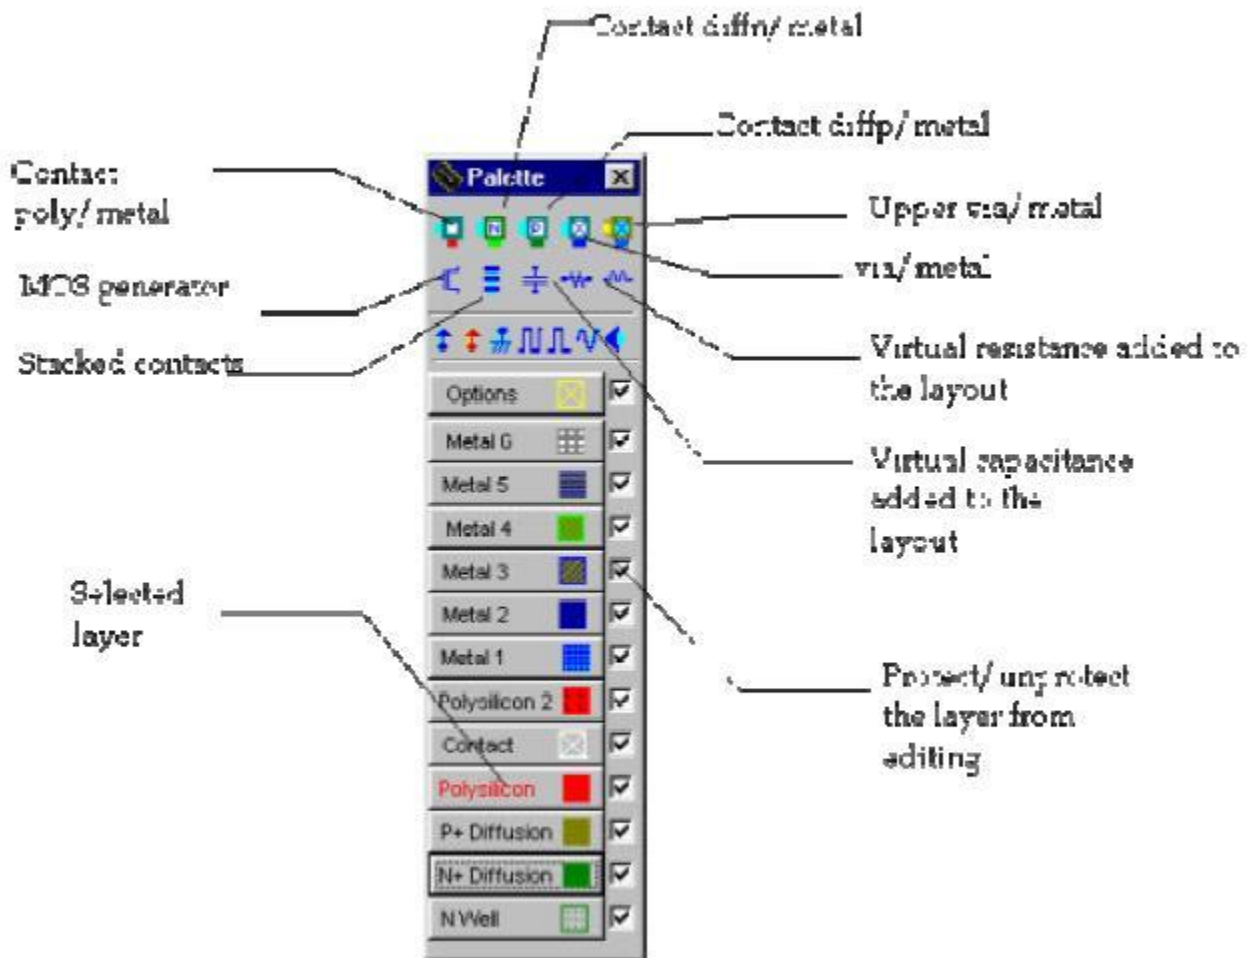

Figure 2: Palette Menu Window
The palette is located on the right side of the screen. A little tick indicates the current layer. The selected layer by default is a polysilicon (PO). The list of layers is given in figure 2.